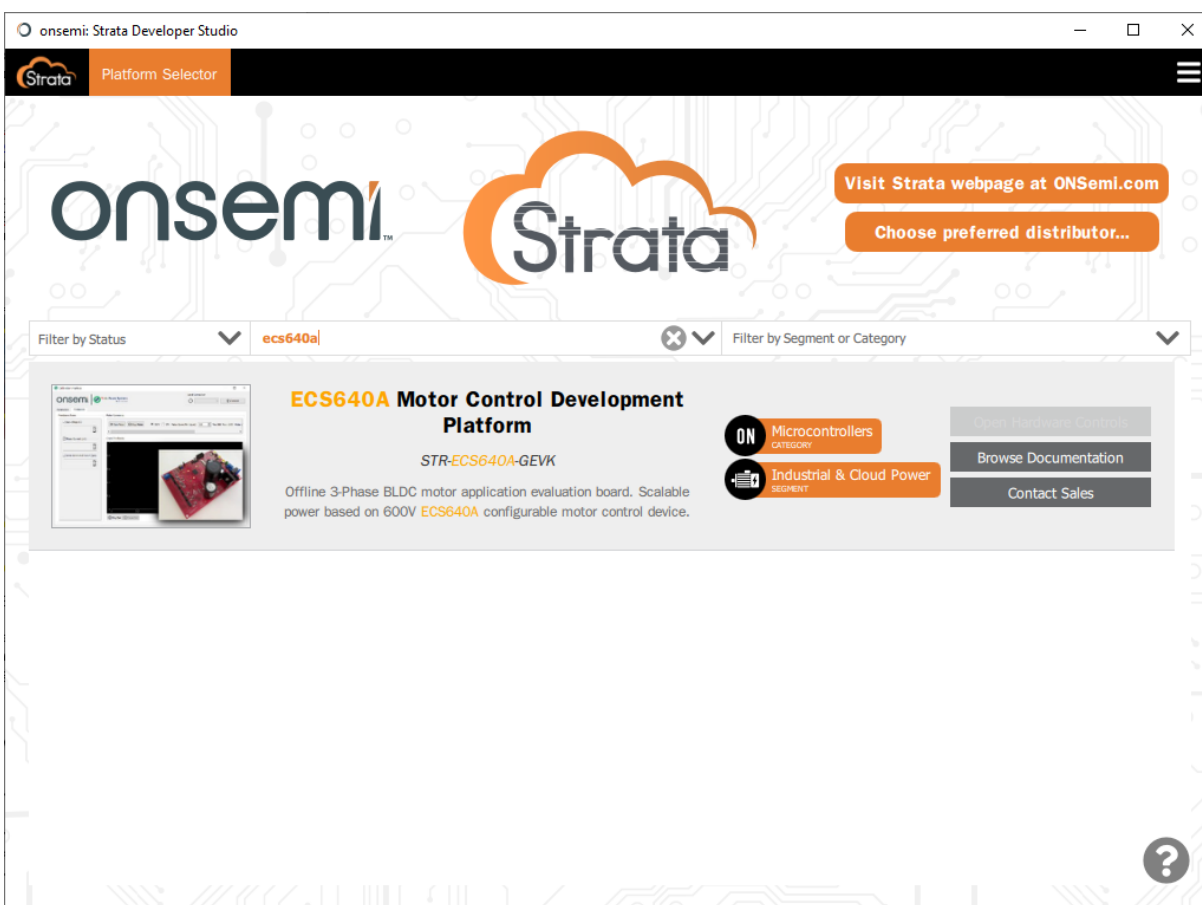

Figure 6. Strata Developer Studio Application – ECS640A Search Result
Step 3: Visit the **onsemi** Strata Developer Studio page (www.onsemi.com/design/tools-software/strata-developer-studio) and download the cloud-connected evaluation board’s management tool software. Launch the Strata Developer Studio application and search for ECS640A (see Figure 6) to browse the latest documentation and software tools (e.g., ecoSpin DTFC GUI application).